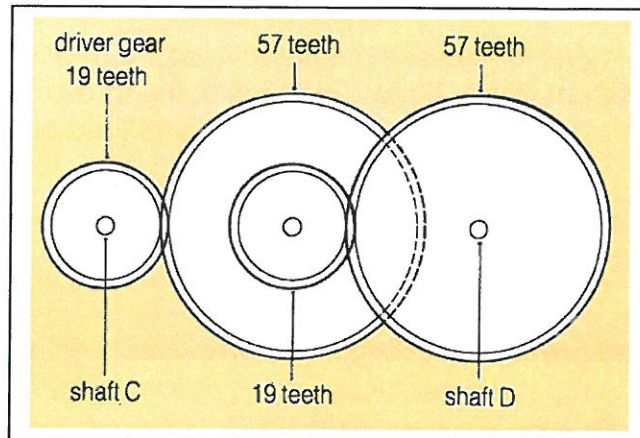

Figure 4
- 3.1 What is the name of the transmission system in Figure 4? (2)